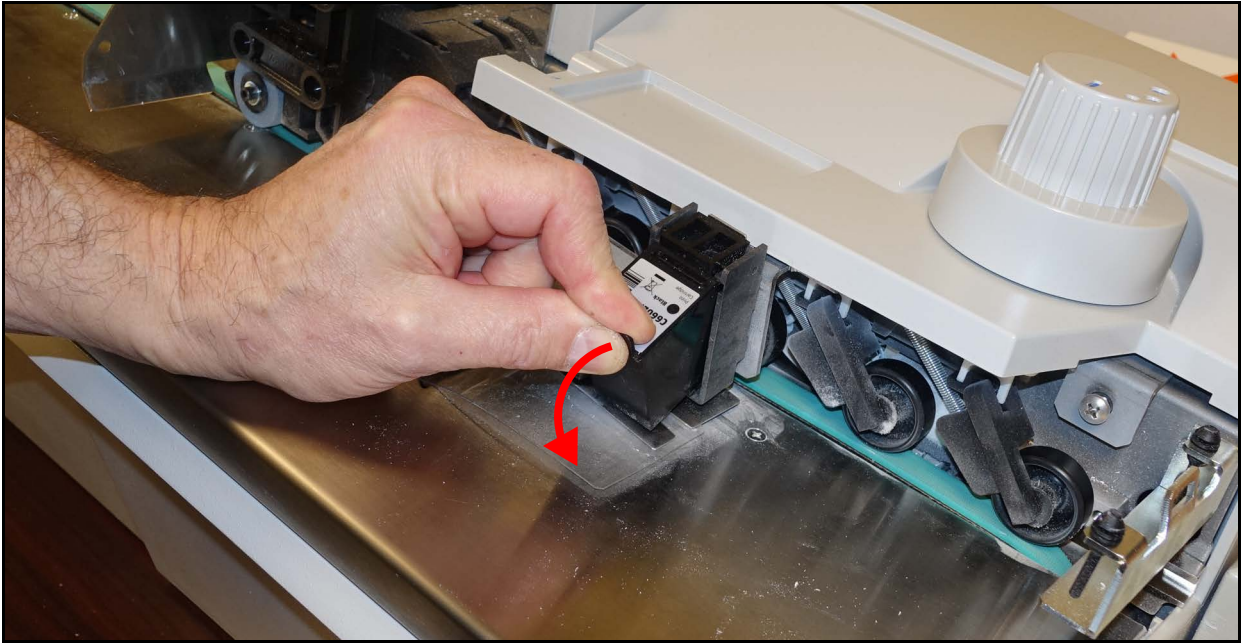

Figure 4-5: Removing the print cartridge
4. Grasp the tab on the printer cartridge and pull in an arc motion (Figure 4-5).